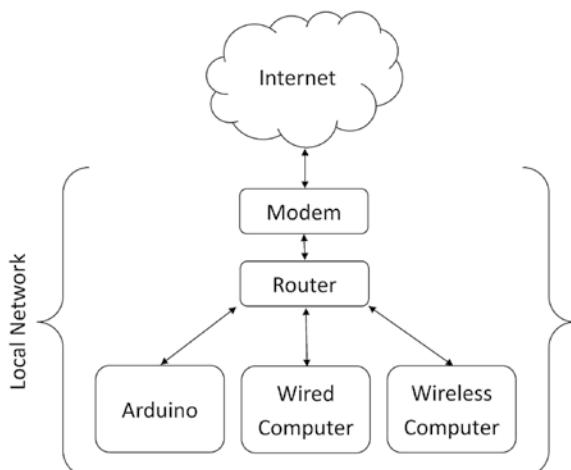

Figure 17-1: A simplified view of the web and your local network
Explaining all the workings of the web is a bit ambitious for one chapter in a book, so for this chapter, you can essentially think of your Arduino's relation to the internet using the diagram shown in Figure 17-1.
An Internet Protocol (IP) address is a unique address that identifies each device that connects to the *internet*. In the case of your home network, there are actually two kinds of IP addresses that you need to worry about: the local IP address and the global IP address. If your home or office has a router (like the one in Figure 17-1), everything within your local network has a local IP address that is visible only to other devices